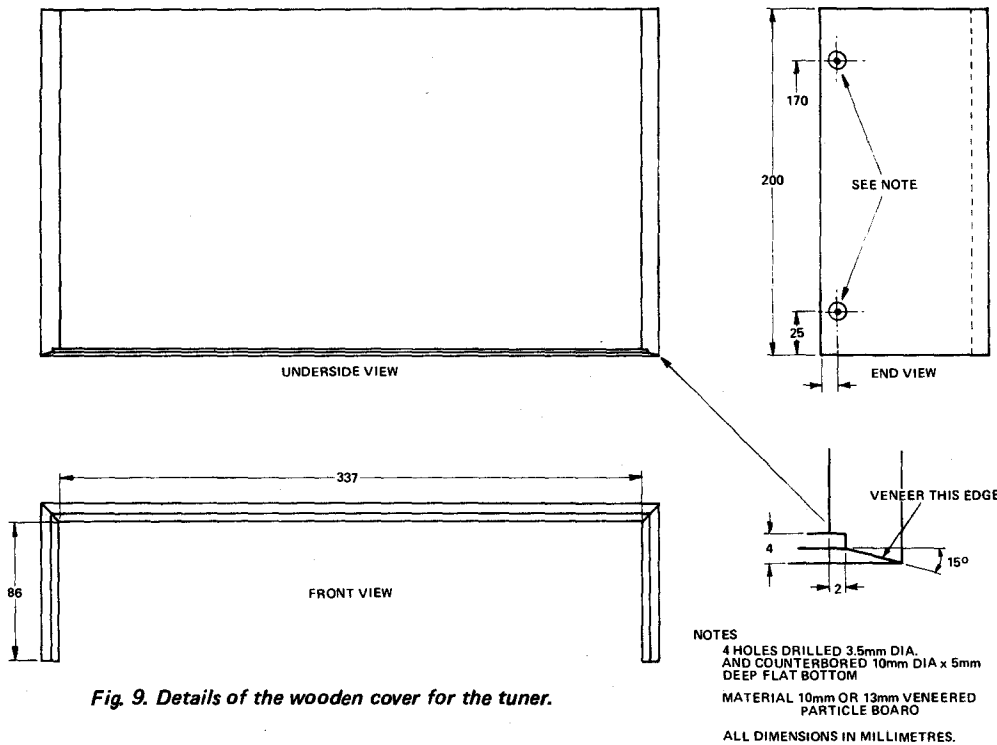

Fig. 9. Details of the wooden cover for the tuner.
- Cover to fig 9
- Rubber feet (4)